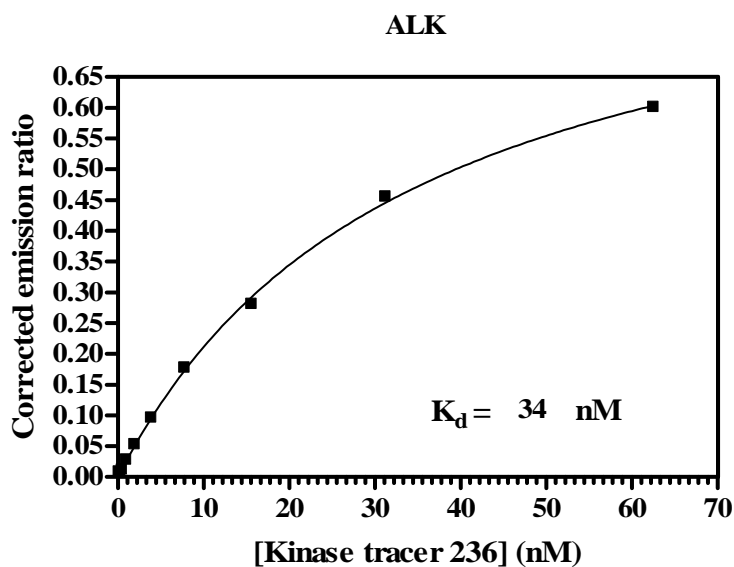

Figure 5. Tracer K_d determination.
5. Plot the background-corrected emission ratios versus [tracer] and fit to the one site binding (hyperbola) equation to estimate the dissociation constant (Figure 5). In some cases data at the highest one or two tracer concentrations are excluded from curve fits due to relatively high “background” signal in presence of competitor. This can be observed as these data points deviate from the one site binding model, whereas the other points align.